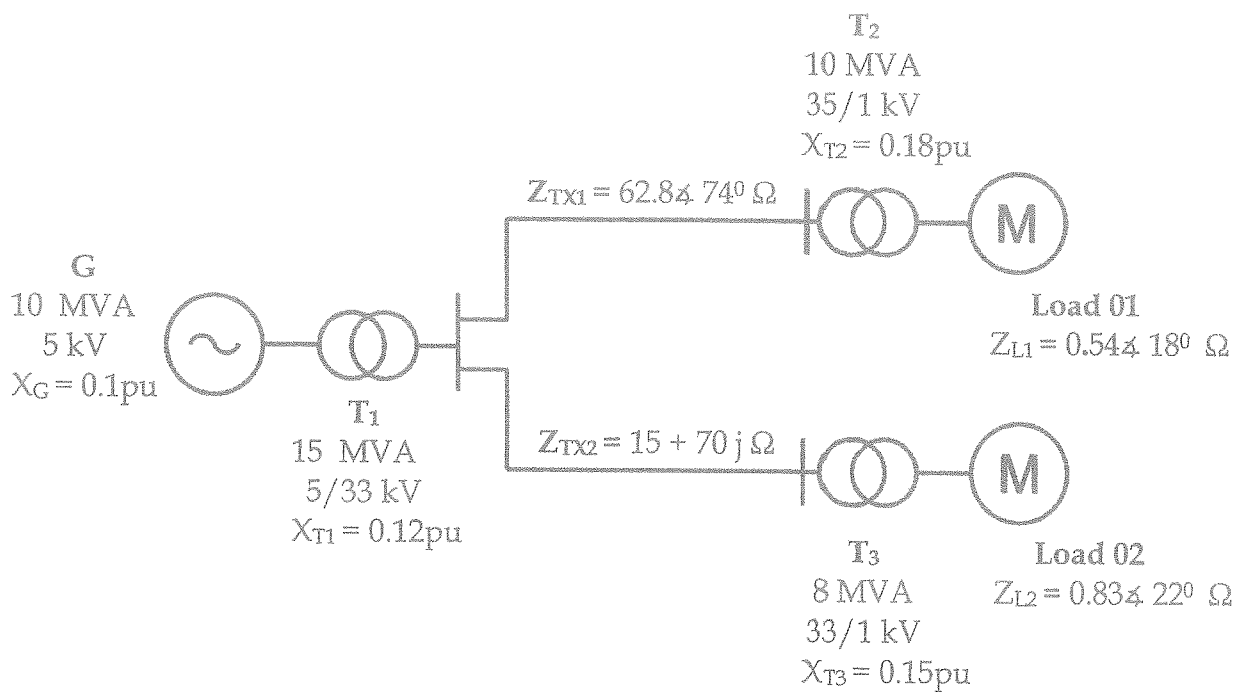

Figure Q1: Single line diagram of the single-phase power system
- b) Single line diagram of a single-phase power system is shown in Figure Q1. T_1 , T_2 and T_3 are transformers, and TX1 and TX2 are transmission lines. Take 10 MVA and 5 kV as base values at the generator G.